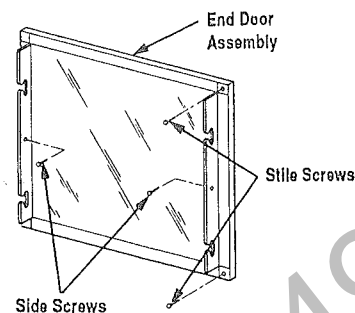

Figure 47
To remove the end panel for glass replacement, remove the two (2) screws from both sides of the end stiles. Lift the entire end panel up and pull away from the fireplace to disengage from the stile pins. Remove the two (2) screws from the end stile, remove the stile and all old glass pieces and slide new glass panel into frame. Reverse this procedure for re-installation of the end panel assembly (Figure 47).